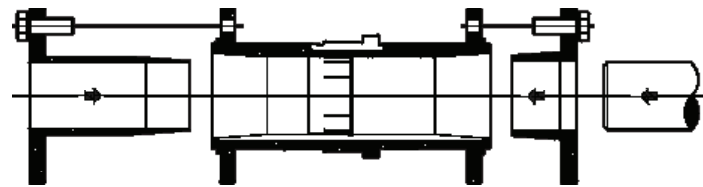

Figure 3 - Short Shaft Bushing and Output Assembly
2. The long bushing is designed to be installed from the side of the reducer opposite the driven equipment as shown in Figure 3. The long bushing when properly installed is designed to capture the end of the customer shaft that does not extend through the reducer.
3. Install the tapered bushing wedge into the hollow bore of the reducer from the same side as the long bushing will be installed. When installing the tapered bushing wedge into the reducer hub, install the flange end first so that the thin taper is pointing outwards towards the long bushing as shown in Figure 3. The wedge is properly installed when it snaps into place in the reducer hub.